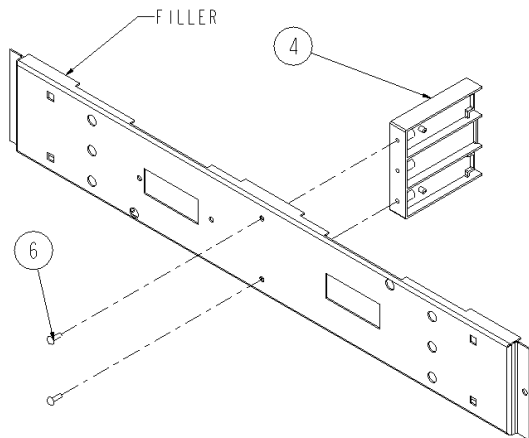

Figure 2. Riveting the barrier to the filler.
- 2. Attach the barrier center to the filler.** Put steel drive rivets [6] through the clearance hole in the filler [1, 2] and align with the appropriate holes in the barrier center [4], as shown in Figure 2. Lightly tap the rivets with a hammer to secure into the barrier center.